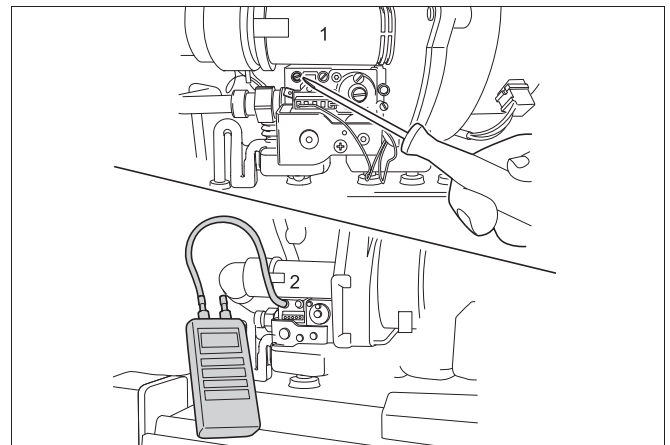

Fig. 34 Measuring the inlet gas pressure
- Close the gas shut-off valve. Loosen the screw plug on the inlet gas pressure testing nipple by two turns (see fig. 34, pos. 1).
- Connect the pressure gauge connection hose to the testing nipple (see fig. 34, pos. 2).